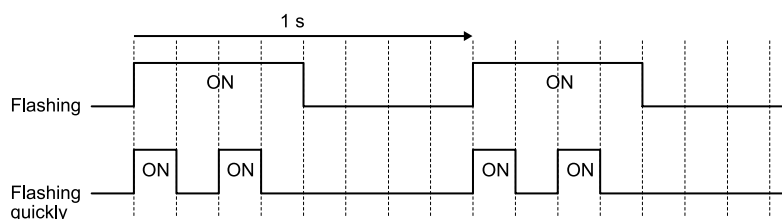

Figure 7.1 LED Flashing Statuses
*1 Refer to Figure 7.1 for the difference between flashing and flashing quickly.